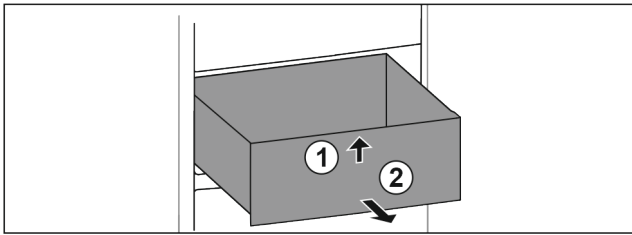

Fig. 17
- ▶ Lift drawer at the front. Fig. 17 (1)
- ▶ Remove drawer to the front. Fig. 17 (2)